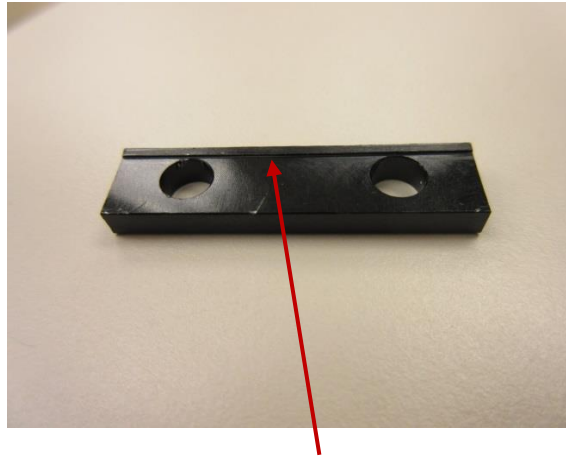

*Figure 5.2.1*
- Ensure air and power supply has been disconnected from the unit prior to removing the cover. Remove the two (2) button head cap screws securing the cover to the base plate using a 1/8 hex key. Lift cover out of the way.
- Place a magnetic tip screwdriver (*provided*) on the cutter blade, then remove two (2) mounting screws using a 3mm hex key wrench. (*T-handle preferred*) *Figure 5.2.1*